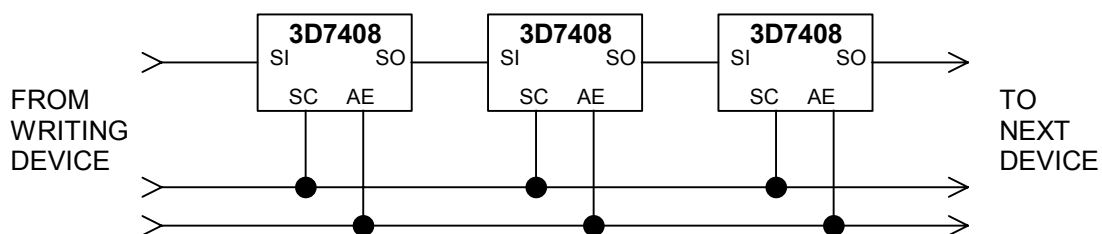

Figure 5: Cascading Multiple Devices
pin (SI) of the succeeding device, as illustrated in **Figure 5**. The total number of serial data bits in a cascade configuration must be eight times the number of units, and each group of eight bits must be transmitted in MSB-to-LSB order.